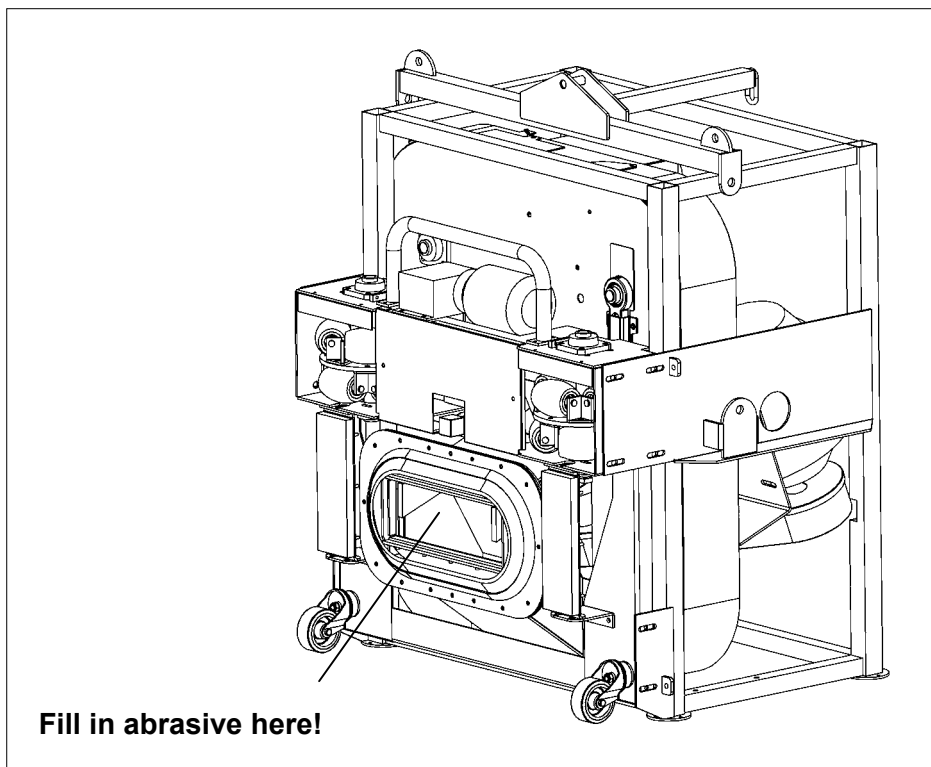

Fig. 5.1
- Check the level of abrasive in the storage hopper. Refill if necessary (see fig. 5.1).